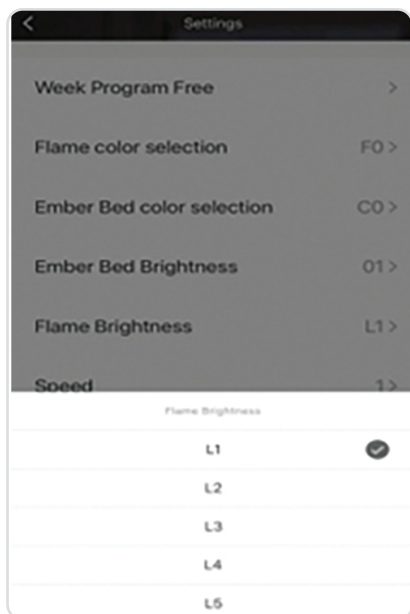

Fig. 14
- 9. Turn on the flame brightness and select the flame brightness L1-L5 as shown in Fig. 14.